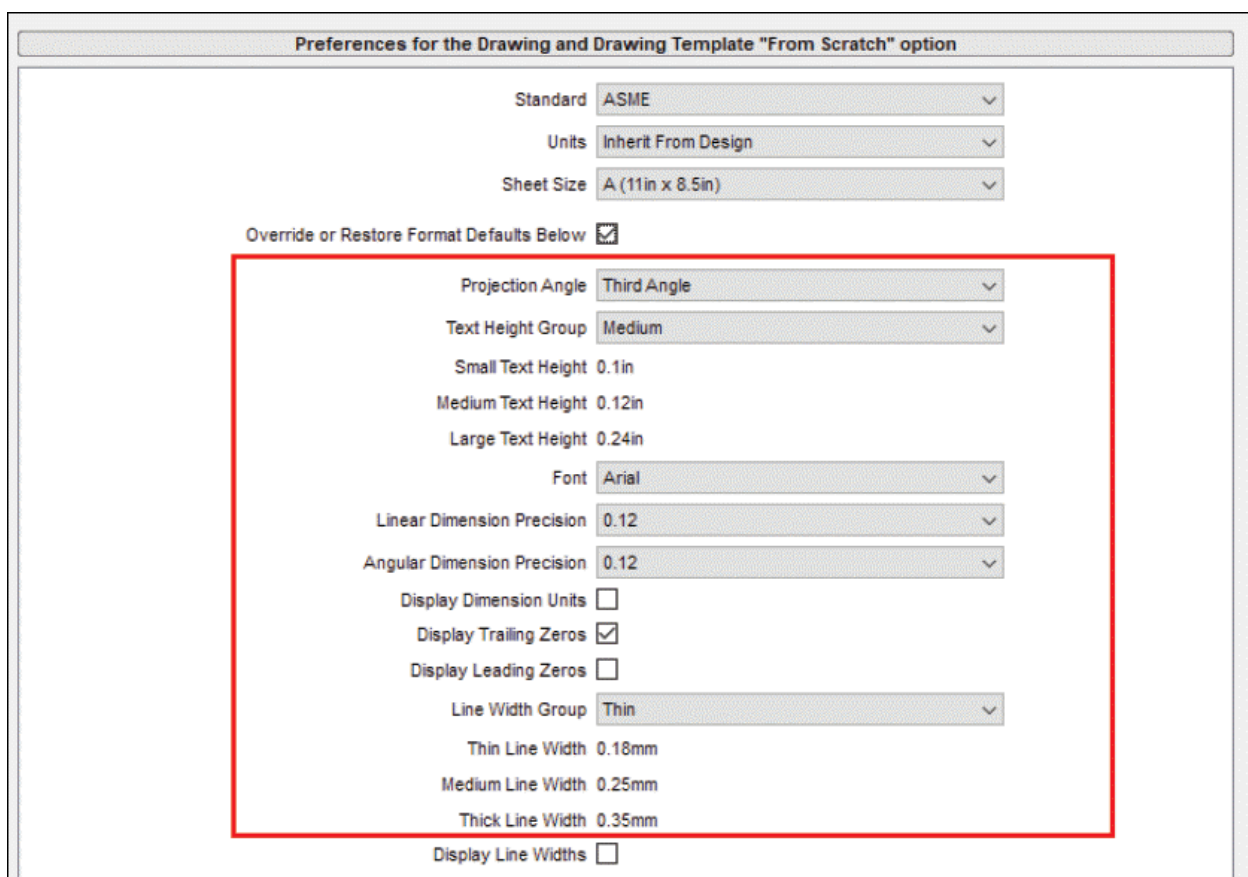

Figure-5. Override options
- Select the **Override or Restore Format Defaults Below** check box if you want to use parameters different from selected standard. The options below this check box will be activated; refer to Figure-5.